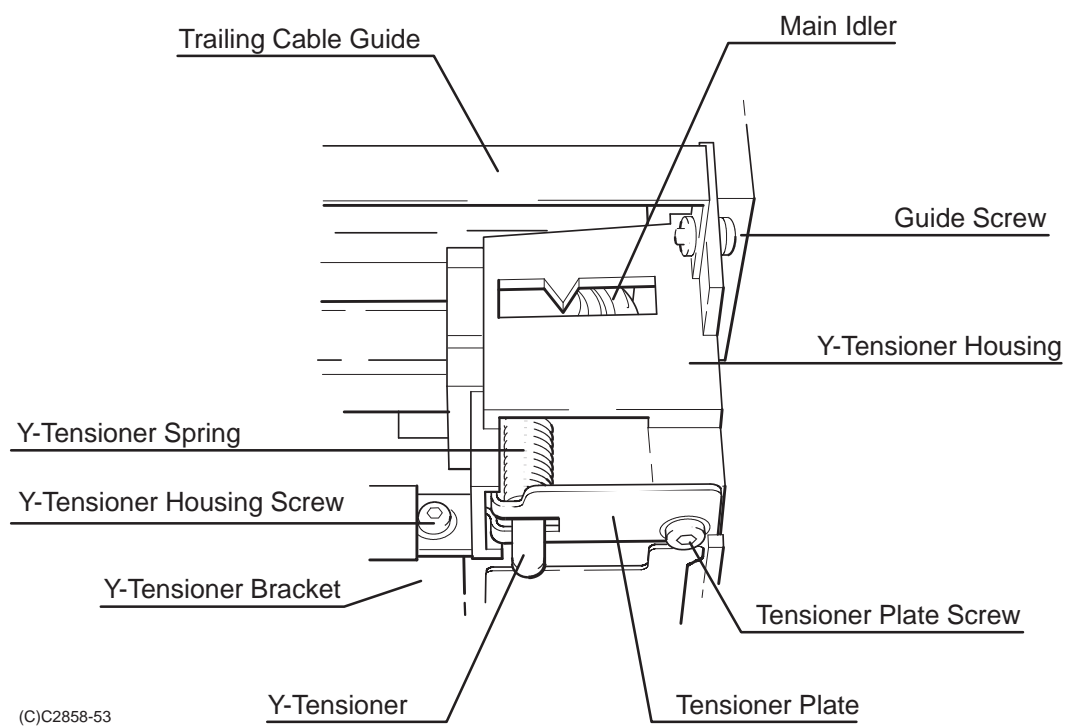

Figure 6-25.
4. Using a TORX T-15 screwdriver, remove the tensioner plate screw. See Figure 6-25.